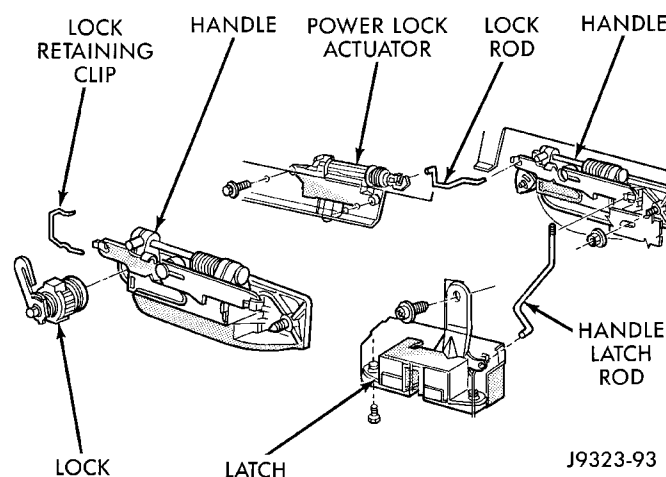
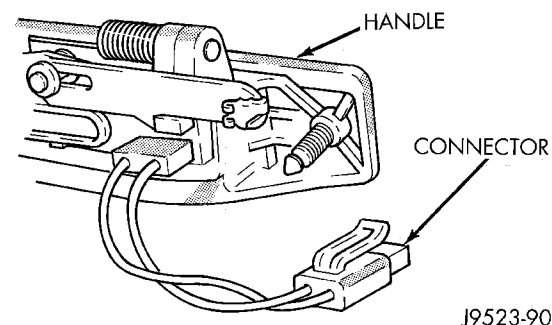

Fig. 63 Liftgate Latch/Lock Component
Fig. 64 Power Lock
- (1) Remove liftgate lower trim panel.
- (2) Remove liftgate latch and actuator linkages.
- (3) Remove nuts attaching outside handle to liftgate (Fig. 63).
- (4) Separate outside handle from liftgate.
- (1) Raise liftgate. Remove liftgate lower trim panel. If necessary refer to service procedure.
- (2) Remove latch screws (Fig. 63).
- (3) Disconnect rod from latch.
- (4) Disconnect power lock connector from handle, if equipped (Fig. 64).
- (5) Remove latch from liftgate.